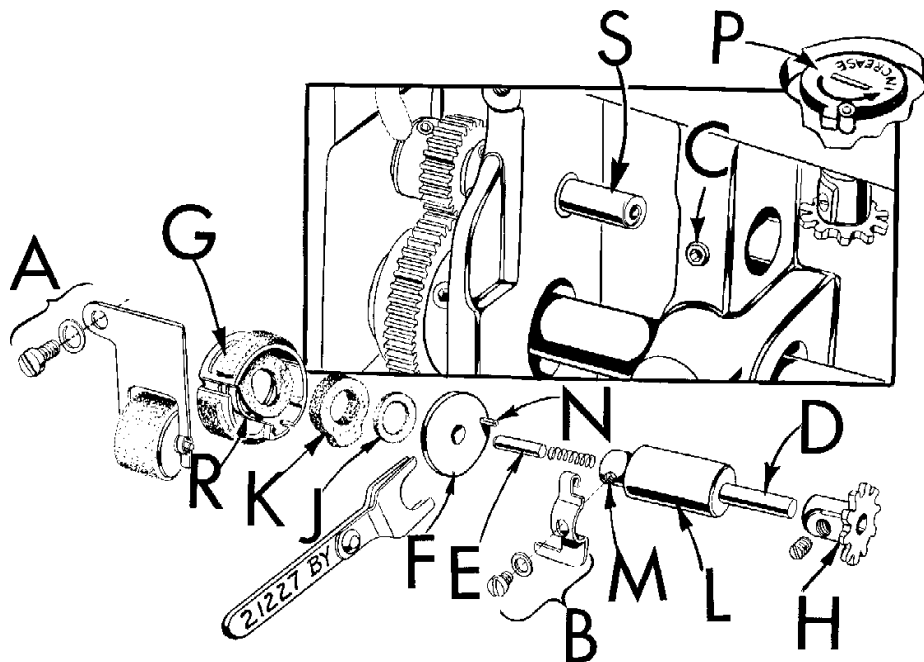

Fig. 23
Hook oiling is accomplished by a high speed rotary pump on the end of the hook shaft. The quantity of oil supplied to the hook is regulated by the longer or shorter path the oil is required to travel through the metering felt of metering cup (G, Fig. 23). (Increase or decrease of oil supply is controlled by a dial (P, Fig. 23) with an arrow marked "INCREASE", found below the cloth plate.) The hook oil feed roller (A, Fig. 23) which rests against the metering cup felt serves not only to feed oil to the unit from the oil reservoir, but filters the oil as well.
1. Remove hook oil feed roller (A, Fig. 23).
2. Remove hook oil control finger (B).
3. Apply finger pressure to hook oil control shaft (D) to prevent loss pivot pin (E); using Allen wrench, loosen set screw (C). Move assembly slowly to right, being careful not to drop pivot pin located on the end of the hook oil control shaft. When pivot pin is clear of pump disc (F), disc is free to fall.
4. Remove metering cup (G) along with oil supply felt (K) and air seal felt (J).
5. Remove cop (H) from hook oil control shaft.